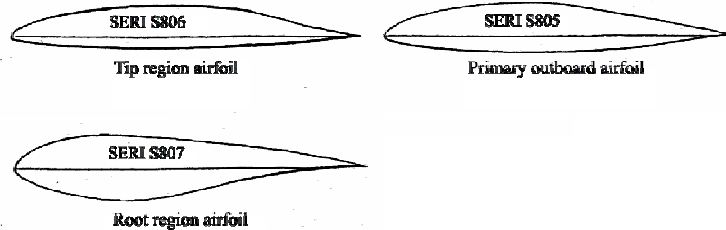

Figure 6.19 SERI airfoils, thin airfoil family (National Research Council, 1991)
p. 289 Figure 6.19 - In the Figure the airfoil designations should read S806, S805 and S807: